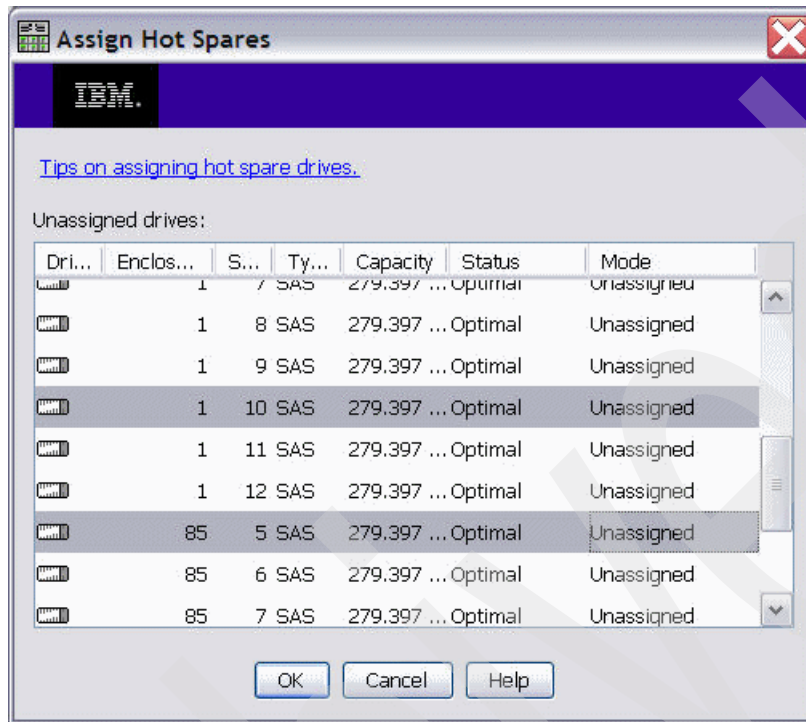

Figure 7-24 Select drives for hot spares
2. In the next window we get a list of disk drives that can be used as hot spare. As shown in Figure 7-24, we select a drive in each enclosure 1 and 85, and confirm our selection by clicking **OK**.